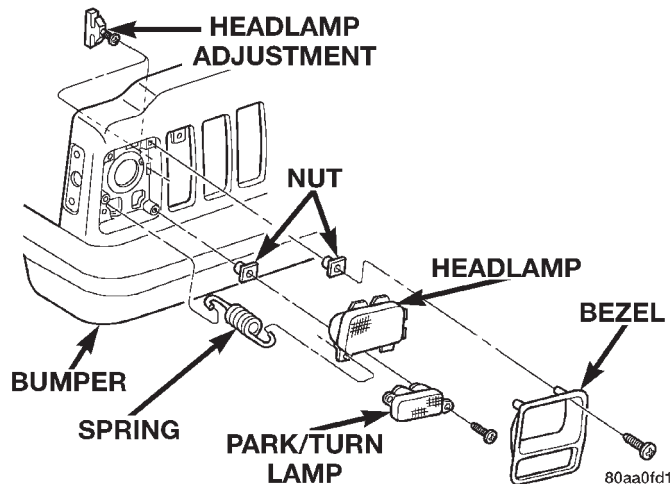

Fig. 1 Headlamp Bezel
- (1) Remove the screws attaching the bezel to the grille opening panel (Fig. 1).
- (2) Remove screws attaching the retaining ring to the headlamp canister.
- (3) Disconnect the headlamp bulb wire harness connector.
- (4) Separate the sealed beam from the vehicle.